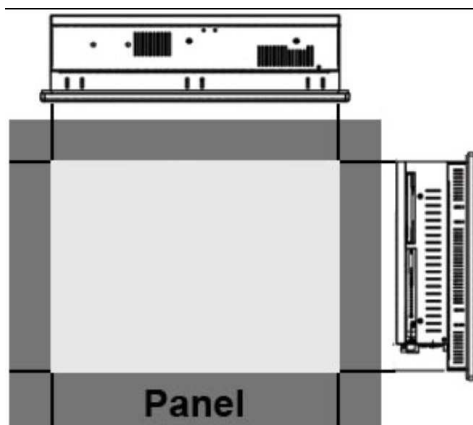

Figure 3-14: Cut the Panel
Step 2: Cut out a section from the panel that corresponds to the rear panel dimensions of the IVC-19PC-P. Take care that the panel section that is cut out is smaller than the overall size of the metal frame that surrounds the IVC-19PC-P but just large enough for the rear panel of the IVC-19PC-P to fit through (see **Figure 3-14**).